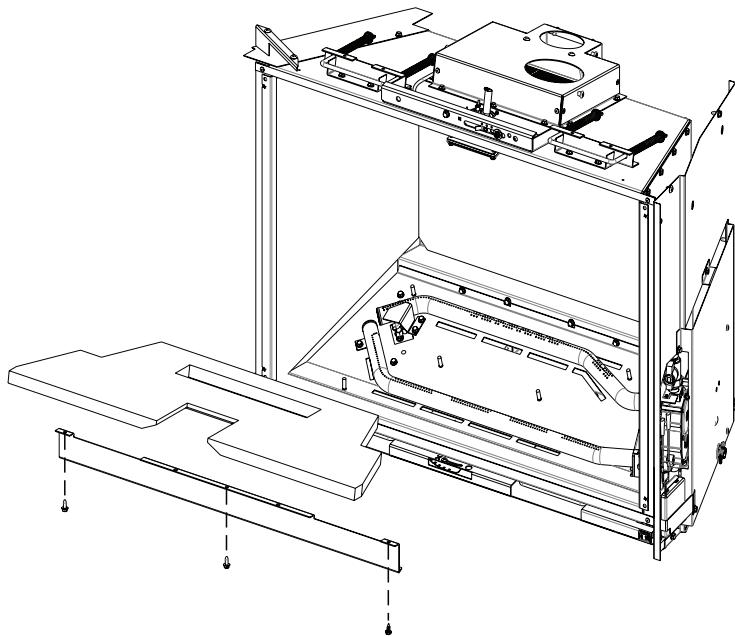

Figure 6
7. If liner is installed, you will need to remove the top bracket held in by 3 screws. Remove top liner and set these items aside, they will be re-used. **See Figure 6.**